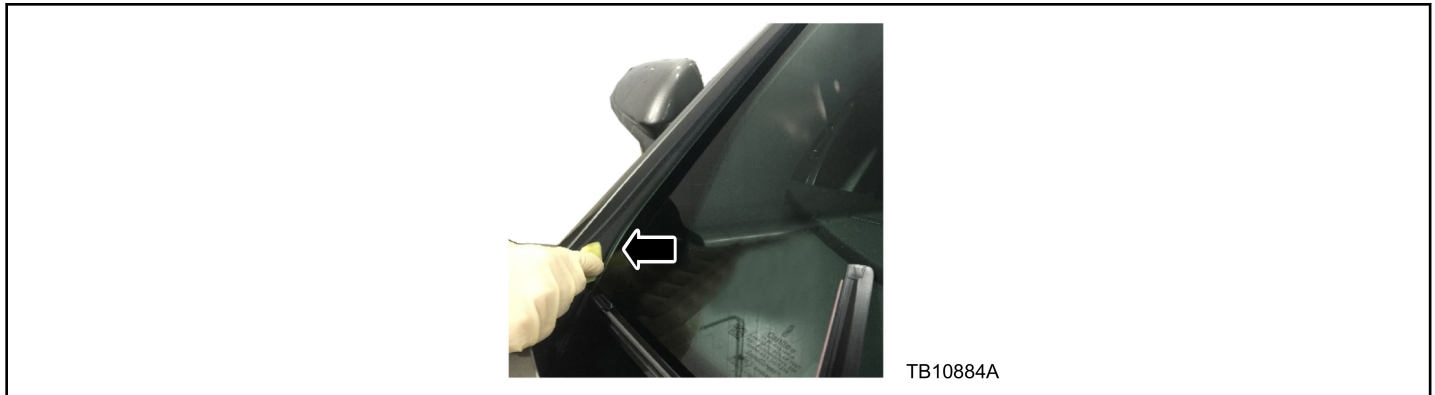

Figure 3 - Article 16-0088
6. Apply 3M™ Adhesion Promoter or equivalent to the entire inside channel of the windshield moulding, making sure the inside top of the windshield moulding channel is well coated. (Figure 3)